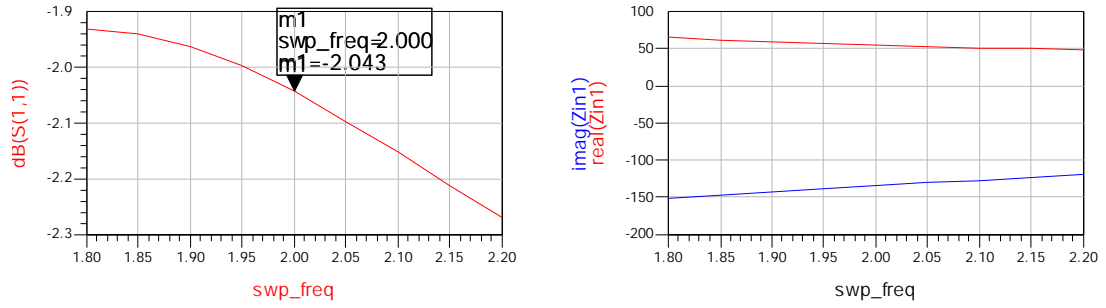

Figure 3. Typical plots for large-signal  $S_{11}$  and input impedance, using the schematic shown in Figure 2. The source power for these results was 0 dBm.
- b) After the first simulation (0 dBm) open the display window and create a pair of graphs, as shown in Figure 3. Add a data marker at 2 GHz. Your results should match the ‘typical’ results shown in the figure.